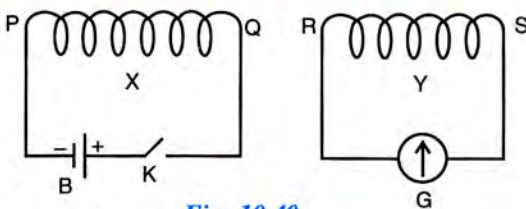

Fig. 10.40
3. The diagram in Fig. 10.40 shows two coils X and Y. The coil X is connected to a battery B and a key K. The coil Y is connected to a galvanometer G.